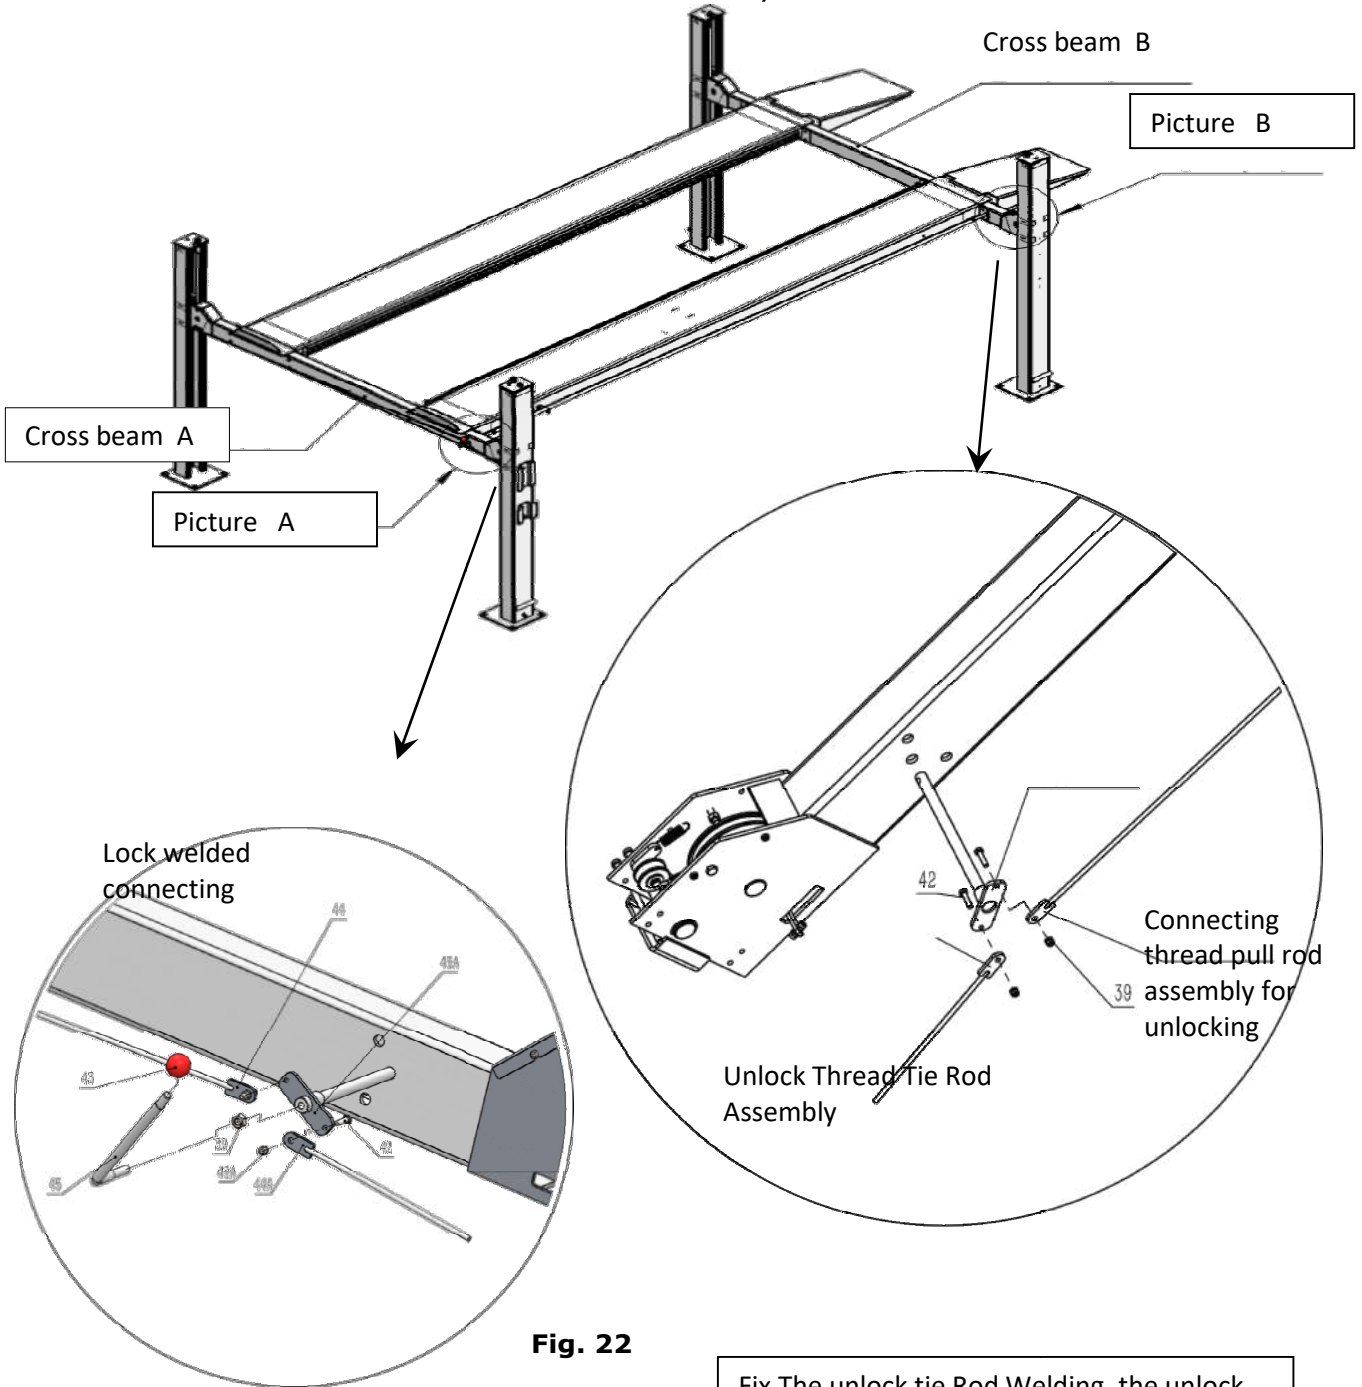

Fig. 22
I. Install release handle assy. (See Fig.22)